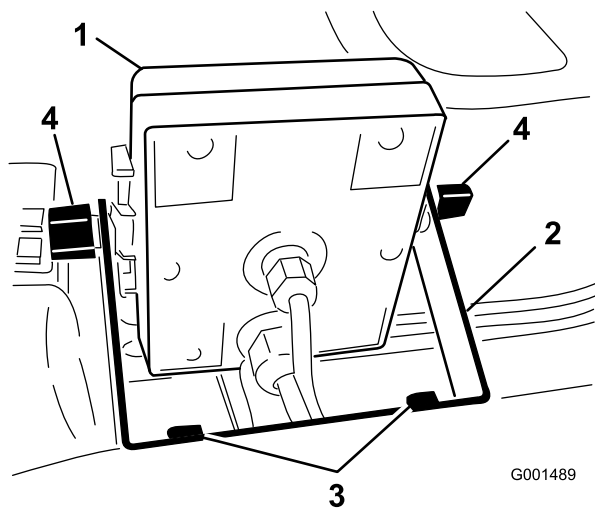

Figure 5
2. Install the monitor bracket on the dash (Figure 5) using 2 flange-head bolts (1/4 x 3/4 inch) and 2 flange nuts (1/4 inch).
- Install the Spray Pro monitor over the carriage bolt heads (Figure 5) and tighten the knobs to secure it.